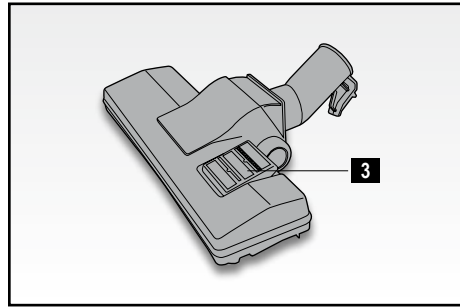

Fig. 3
- The floor brush can be used for hard floors and carpets. It has two wheels so that it can slide 360 degrees over all surfaces. It is also possible to select the required bristle projection by pressing a lever at the end of the brush (3 - Fig. 3).